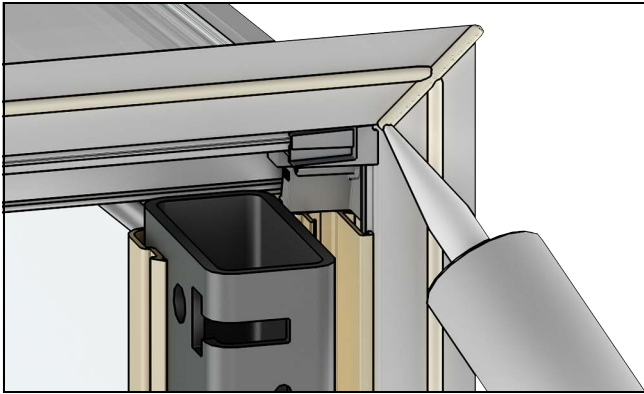

Figure 14
1. Add continuous perimeter seal along the head and jamb sides of the aluminum flashing flange prior to installing window into rough opening for exterior air and water seal. See Figure 14.